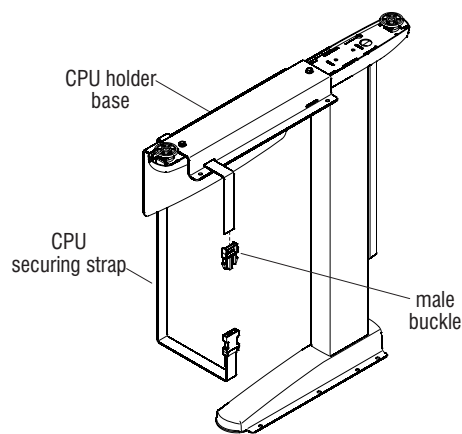

Figure 2
2. Remove the male buckle from CPU securing strap and feed end through small slot in CPU holder base, across the foot, and through small slot in opposite wall. Replace male buckle by feeding strap through opening nearest teeth and loop back and through outside opening. Repeat for second strap (Figure 2).